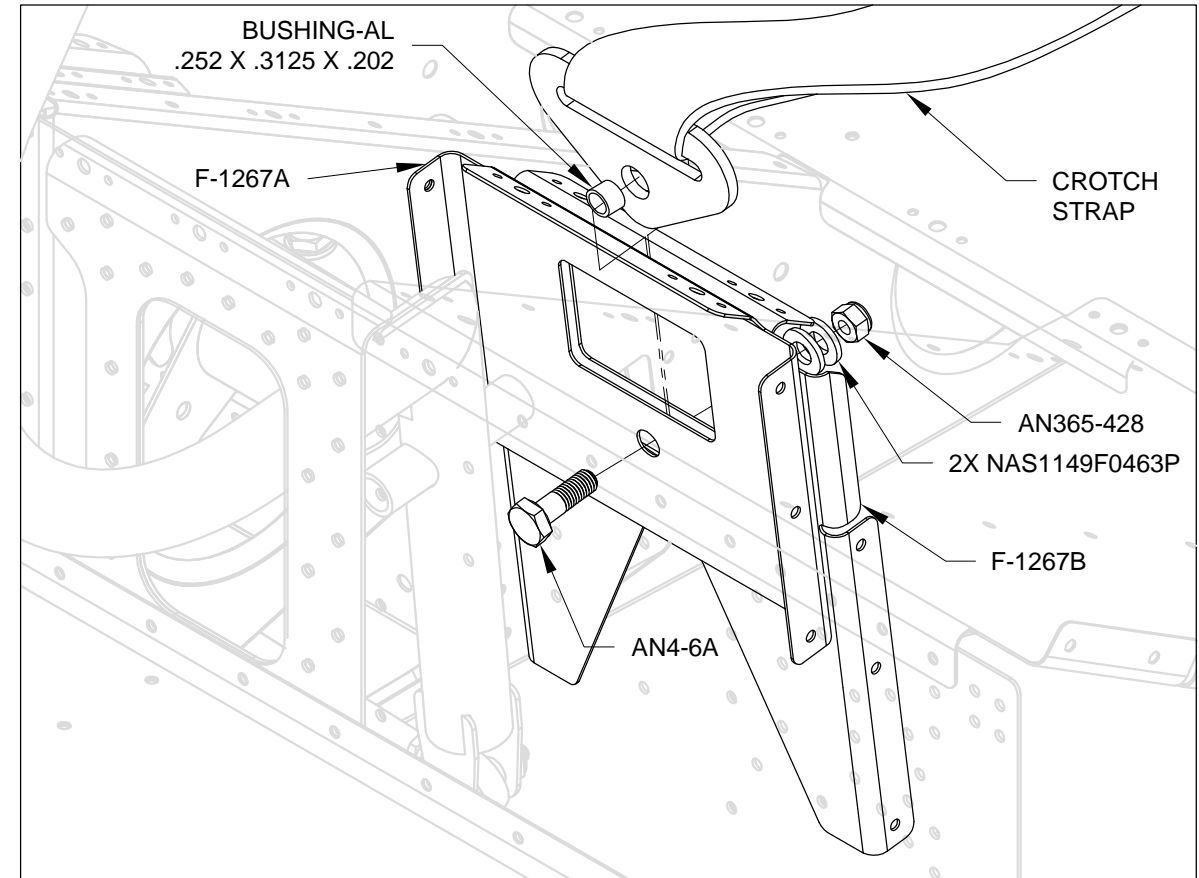

FIGURE 3: CROTCH STRAP INSTALLATION (SOME PARTS NOT SHOWN FOR CLARITY)
Step 4: Attach the end fitting of the crotch straps to the F-1267A and F-1276B Crotch Strap Lugs using the hardware called out in Figure 3.